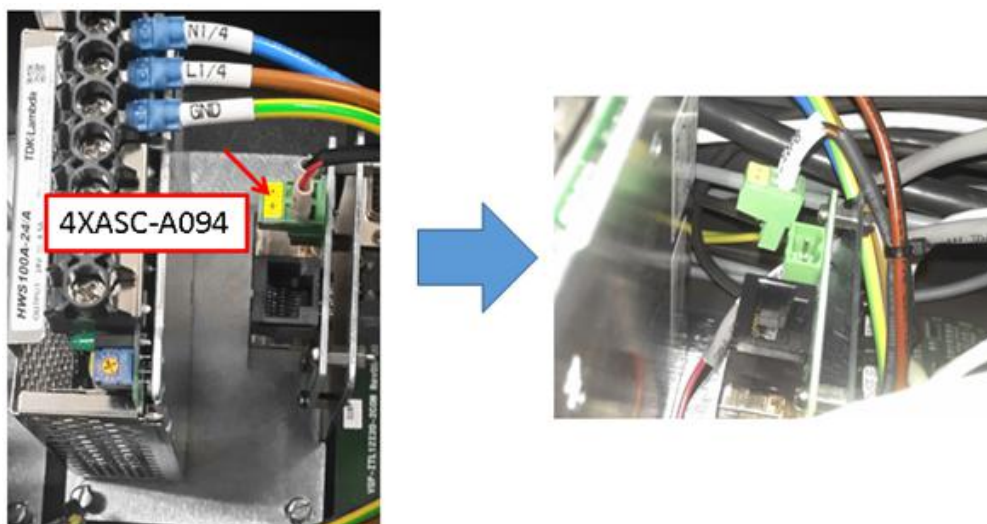

Figure 5 Power cable disconnect
- Disconnect the Interlock Patch Board Power Cable (P/N, 4XASC-A094) as Figure 5.